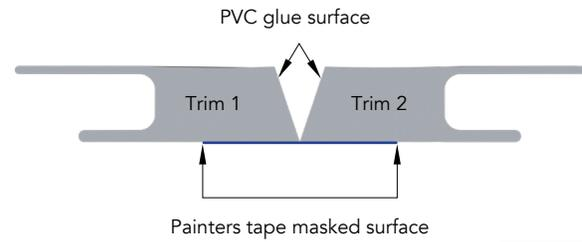

Figure 11
- Use PVC glue to bond the joint together, while ensuring no adhesive gets on the face of the casing (Fig 11).